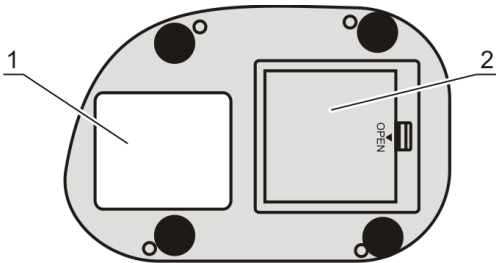

Figure 1. View from below
- (for **DEN-1B**) Battery installation. Pull back the pin on the battery compartment (fig. 1/2) on the underside and open lid. Insert batteries as shown on the scheme inside and close the lid.
4.4 **Factory calibration.** The device is pre-calibrated at the factory for operation with the glass tubes 16 mm in external diameter (see the label on the bottom side of the unit, fig. 1/1) at temperature range from +15°C to +25°C and saves calibration data when being switched off.
- 6.1 The unit is pre-calibrated at the factory for operation with the glass tubes 16 mm in external diameter (see the label on the bottom side of the unit, fig. 1/1) at temperature range from +15°C to +25°C and saves calibration data when being switched off. To use different types of tubes, recalibrate the unit as shown below.